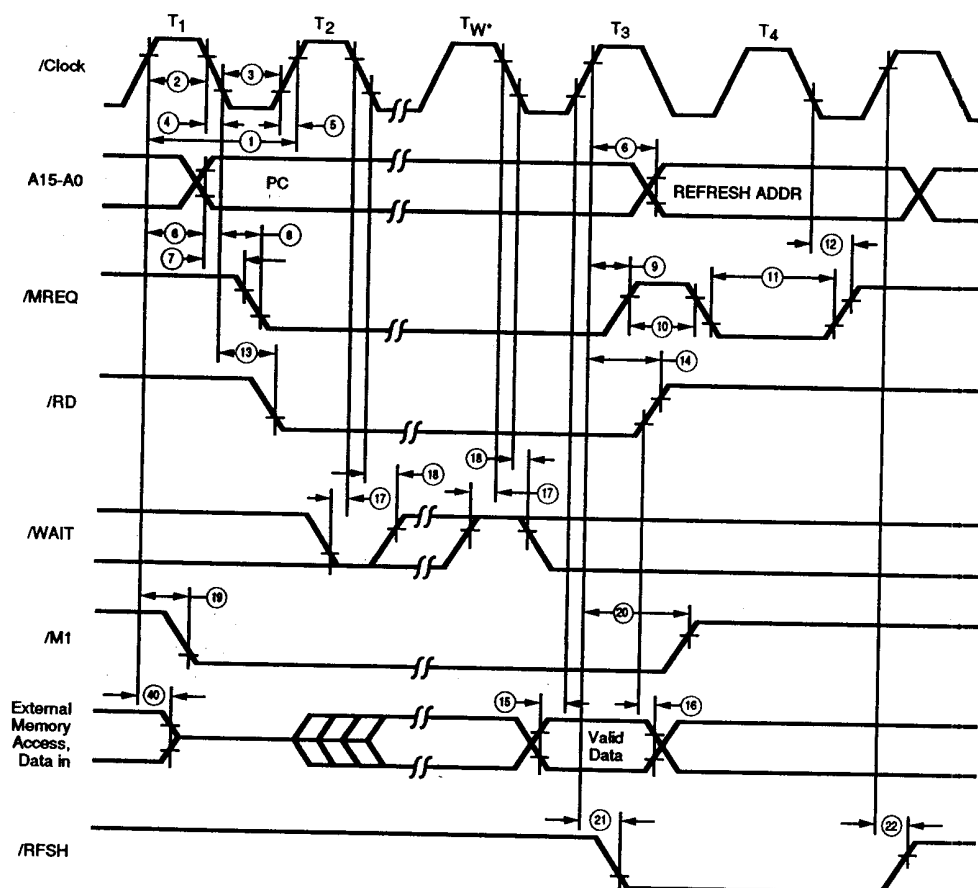
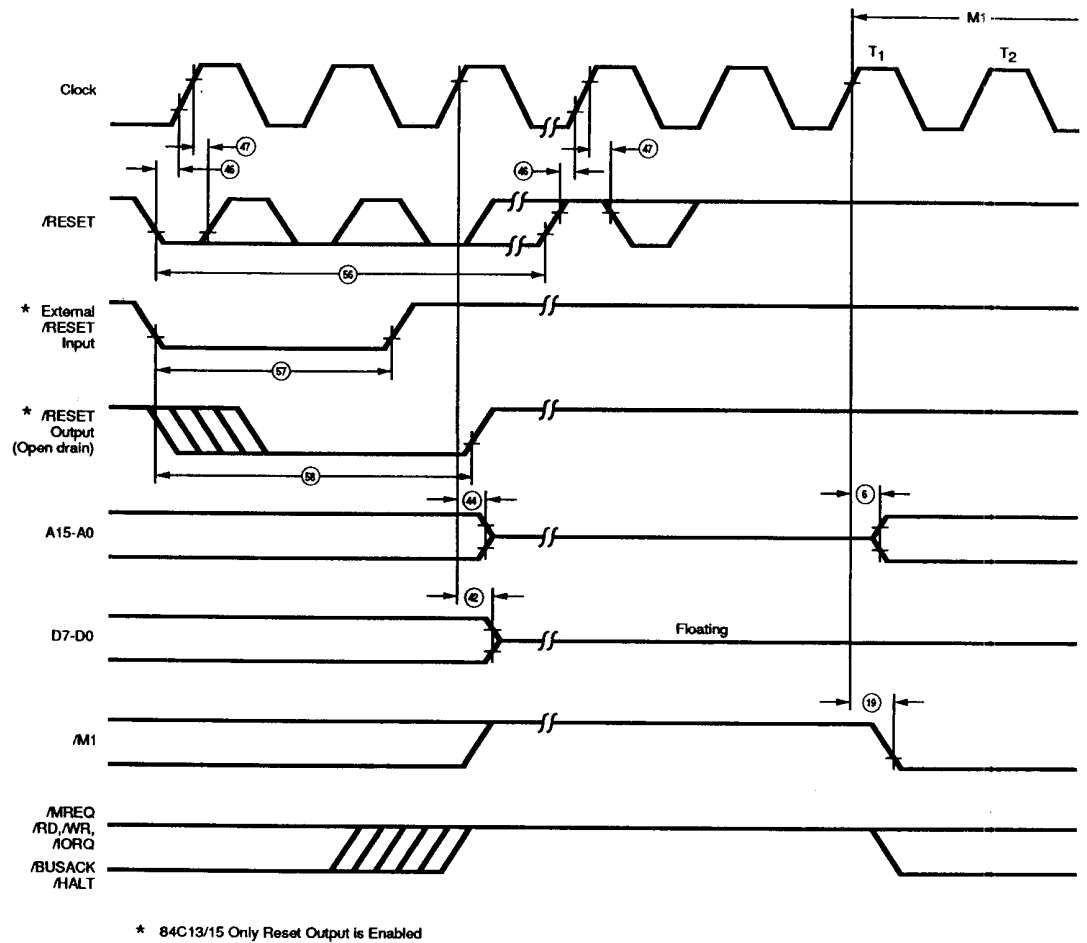

Figure 41. Instruction Op-code Fetch
Figure 48. Reset Cycle
Parameters referenced in Figure 41 through Figure 48 appear in Table A.
Instruction Op-code Fetch. The CPU places the contents of the Program Counter (PC) on the address bus at the start of the cycle (Figure 41). Approximately one-half clock cycle later, /MREQ goes active. When active, /RD indicates that the memory data can be enabled onto the CPU data bus.
Once /RESET goes inactive, two internal T cycles are consumed before the CPU resumes normal processing operation. /RESET clears the PC register, so the first op-code fetch location is 0000H (Figure 48).